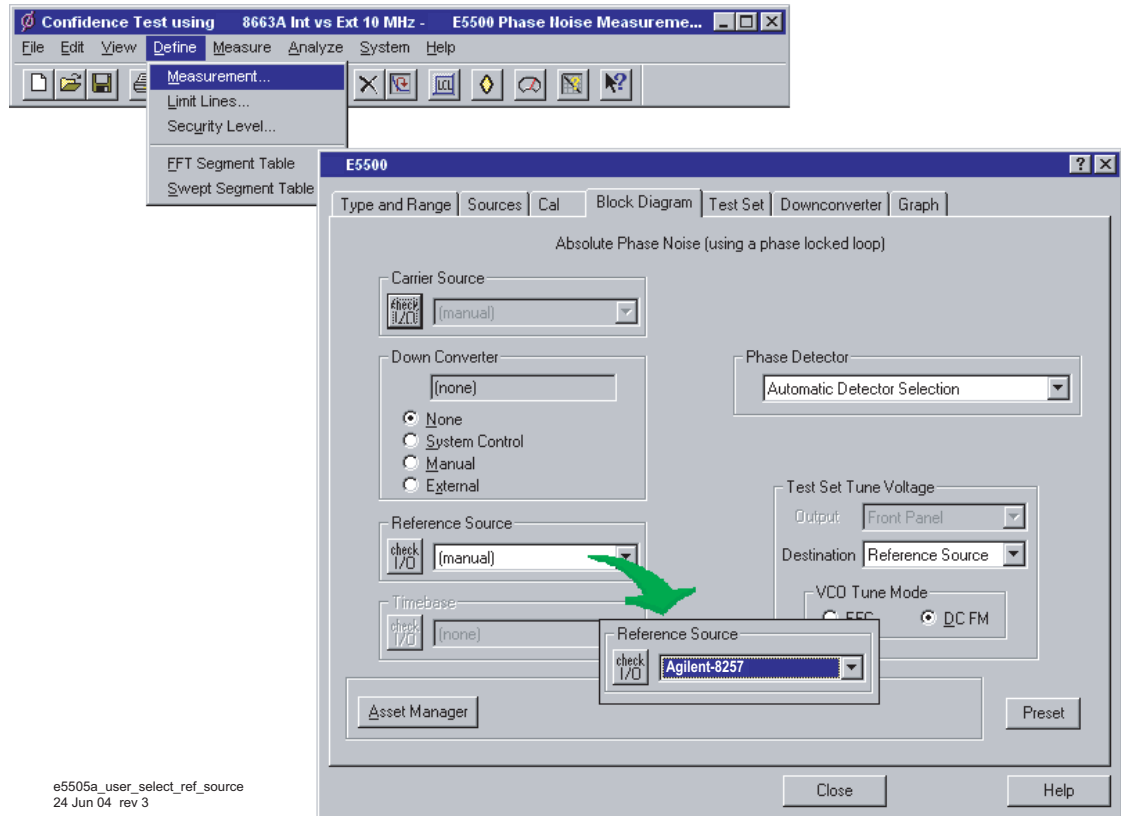

Figure 87 Selecting a reference source
- 1 Using Figure 87 on page 133 as a guide, navigate to the **Block Diagram** tab.